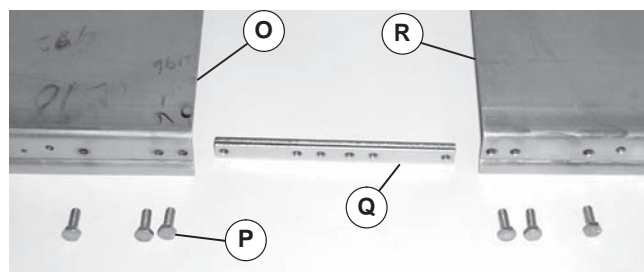

Figure 5
1. Typical components (Figure 5).